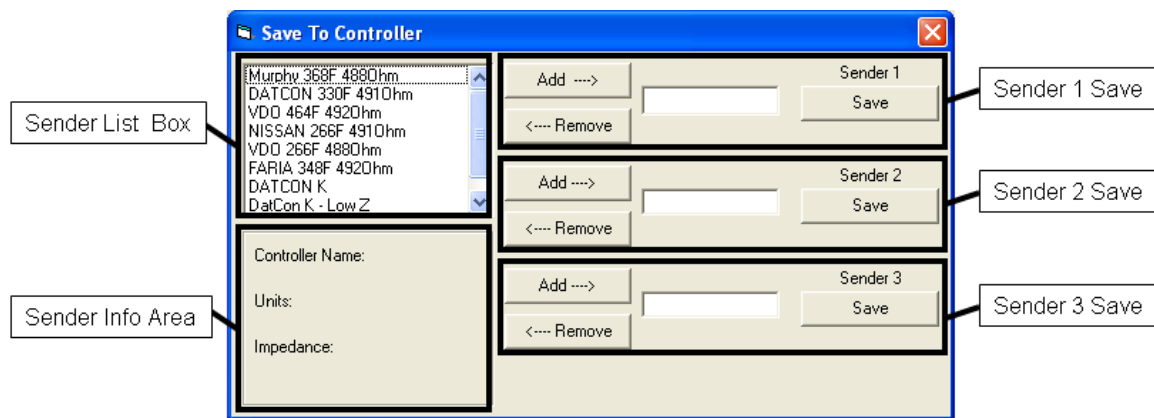

Figure 40 – “Save To Controller” Window
2. Click the “Save Tables To Controller” button in the lower right hand corner of the Utility. A new window will open up as shown in Figure 40.